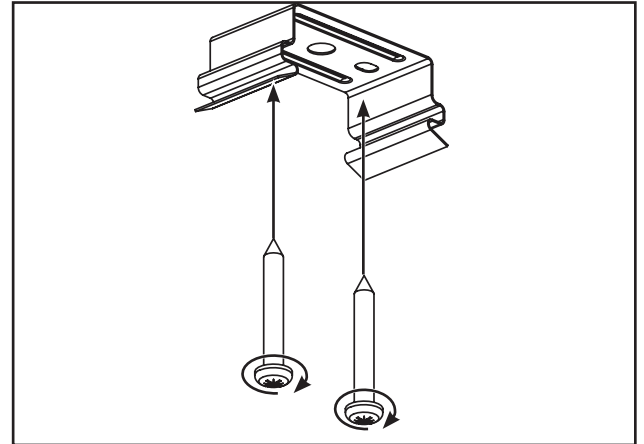

Figure 2.
3. Secure mounting clips to ceiling using 4 screws (customer supplied). Space the clips 16.5 inches apart for 2 foot luminaire, or 35.5 inches apart for 4 foot luminaire. (Figure 2)